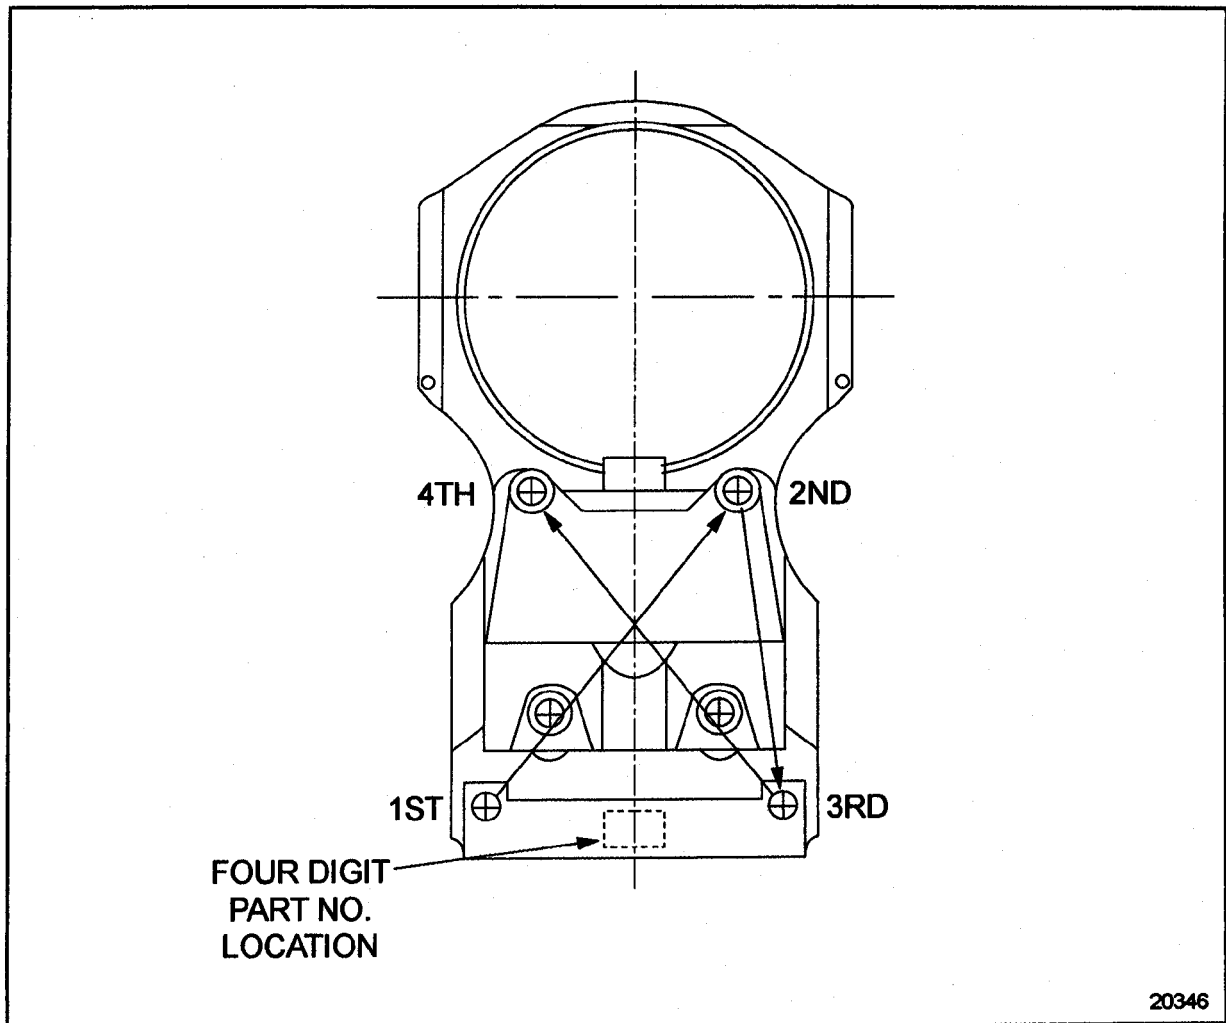

Figure 2-9 Electronic Unit Injector Solenoid Torque Sequence
10. Thread screws into body and tighten all screws until heads contact retainer and load plate with a slight force (less than 0.6 N·m [5 lb·in.] torque) in the sequence shown. See Figure 2-9.
11. Torque screws to 2 N·m (19 lb·in.) in the sequence shown. See Figure 2-9.
12. On DDEC II injectors only, etch the last four digits of injector part number on the load plate. See Figure 2-9.